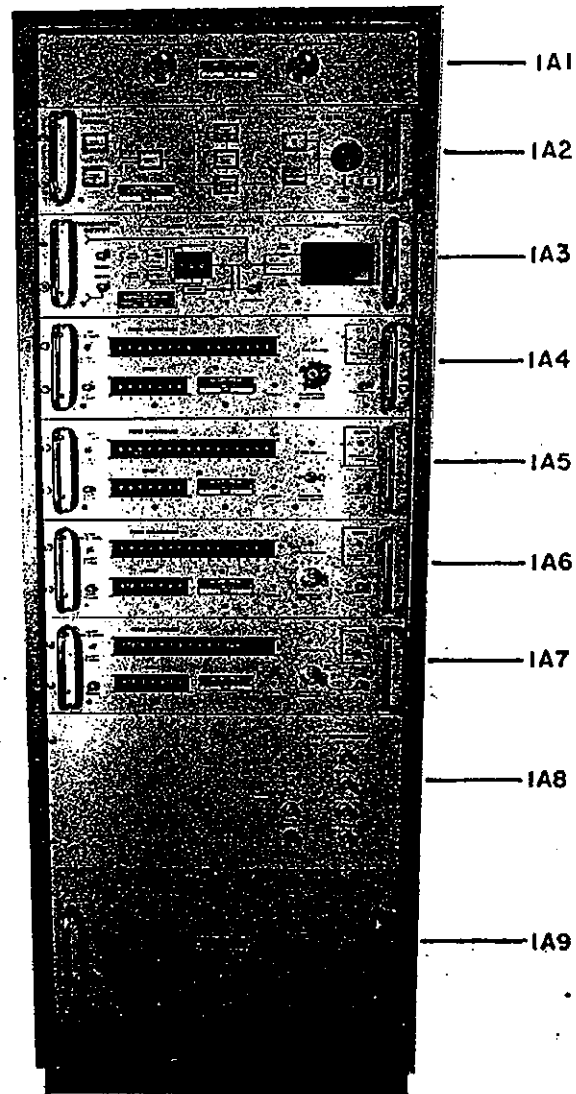
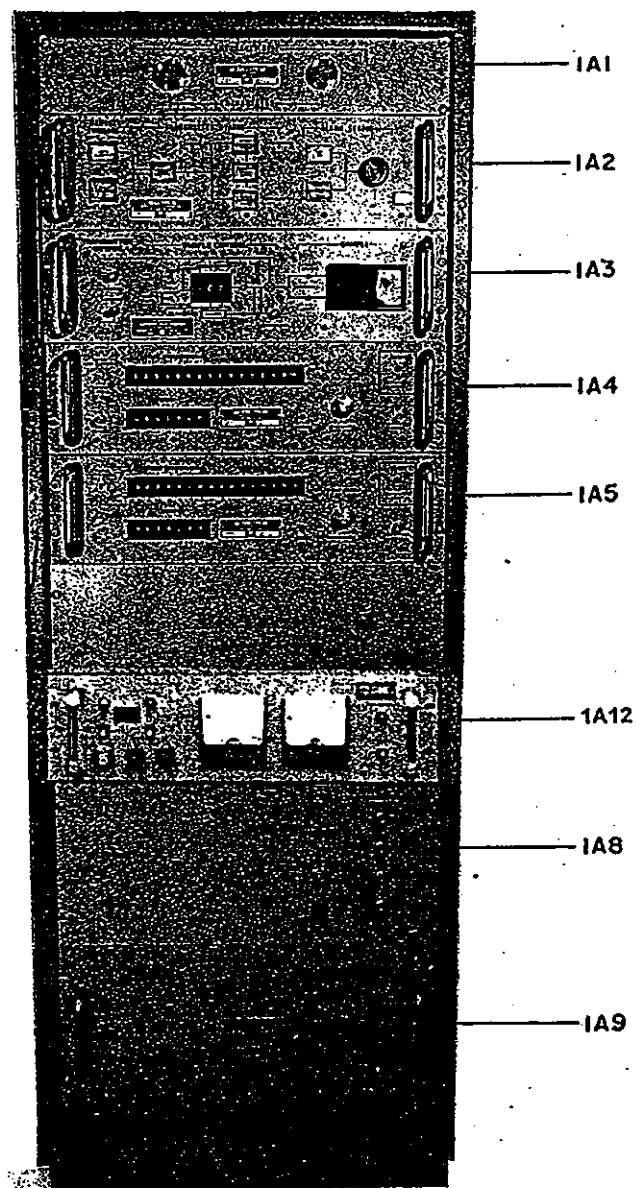
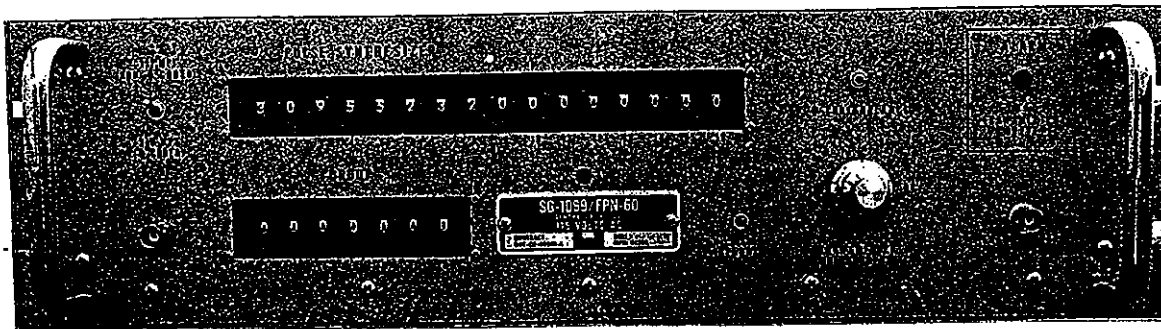

Figure 1.1. AN/FPN-60(V)2 Transmitter Control Set
Figure 1.2. AN/FPN-60(V)1 Transmitter Control Set
Figure 1.6. 1A4-1A7 - Pulse Generator (SG-1099/FPN-60(V))
1.1 Introduction. This technical manual provides a description of the various units of the AN/FPN-60(V) and AN/FPN-60A(V) Transmitter Control Sets (TCS). The TCS is installed at Loran-C Transmitting Stations which have the AN/FPN-44A, 44B, or 45B Loran-C Transmitter installed. The TCS generates the drive waveforms for the transmitters and monitors the transmitter status and parameters of the transmitted signal. The TCS also provides an interface between the transmitter and the timing and control equipment. Figures 1.1 and 1.2 show the equipment for a dual-rate and single-rate configuration, respectively. Figure 7.1 is the Loran-C System Block Diagram. Appendix A contains diagrams of changes that have been made to the various transmitters and have not been placed in the transmitter technical manuals. Appendix B contains information on the ROS modified equipment in the AN/FPN-60A(V) TCS.
1.2.1 The Transmitter Control Set (Figures 1.1 and 1.2) performs the following functions:
1.3.4 Pulse Generator (1A4-1A7). A dual-rated station has Pulse Generators 1A4 thru 1A7 (see Figure 1.1). A single-rated station has Pulse Generators 1A4 and 1A6 (see Figure 1.2). The Pulse Generator (Figure 1.6) contains the Pulse Control Module W0678-2/PCON, Group Droop Module W0678-19B/GR DROOP (for dual-rated stations and stations having tail drive), and Pulse Synthesizer Module W0678-1/PSYN. The Group Droop Module W0678-20/GR DROOP is unique to LORAN STATION CAPE RACE, replacing the W0678-19B/GR DROOP module. The Pulse Generator (PGEN) performs the following functions: